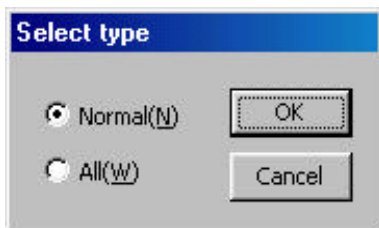

Figure 7.44 "Select type" dialog box
Click "*Upload (U)*" in the "Index TypeB Menu" to display the "Select type" dialog box (see Figure 7.44).